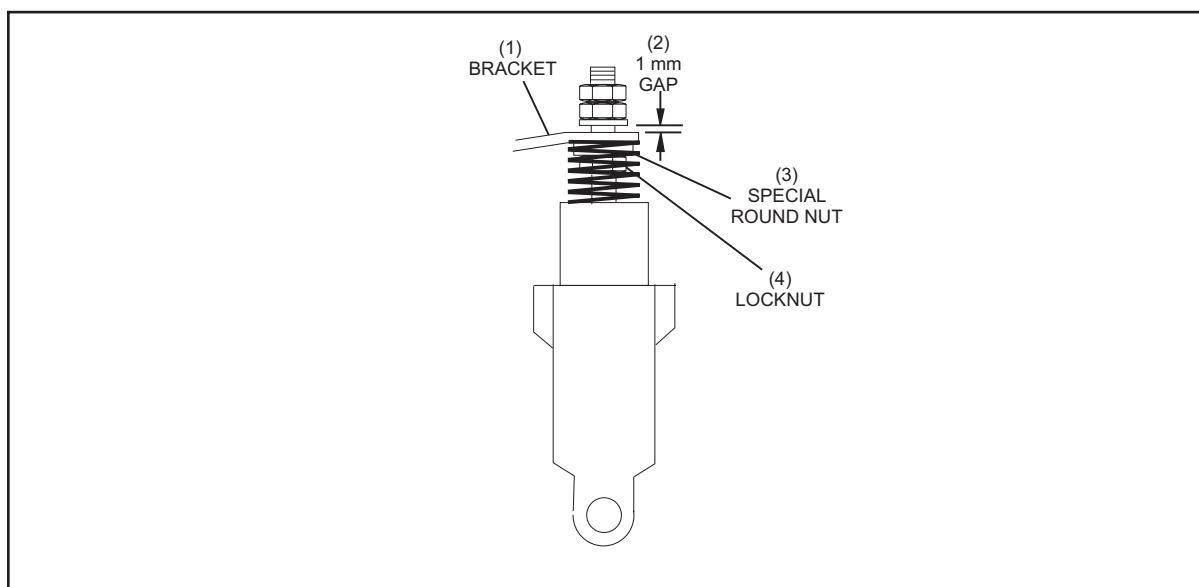

Figure 5-11. Adjust Jam Nuts on Shock Absorber Bracket.
- (1) CUSHION BOARD (2) BALL CUSHION STOP BRACKET
2. Verify that lower locknut and special round nut on shock absorber bracket (*Figure 5-11*) are installed properly. (No threads must be visible below bottom locknut.)
3. With the cushion held against the ball cushion stop, adjust the two upper jam nuts until a gap of 1 mm is obtained between the flat washer and the top of the shock absorber bracket. Refer to *Figure 5-11*. With the ball cushion being held against the ball cushion stop, the shaft must not be bottomed in the shock absorber.